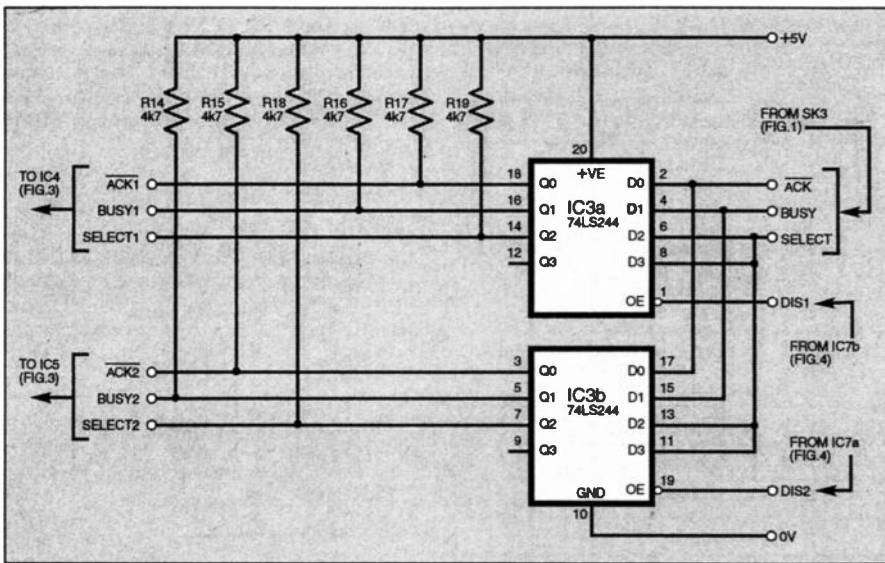

Fig. 2. Multiplexed distribution of control signals.
Signal lines **ACK** (acknowledge), **BUSY** and **SELECT**, are connected to IC3a and IC3b (see Fig. 2), each being one half of a dual 4-bit tri-state buffer. When the Output Enable (OE) pin is low, data on the D inputs is passed through to the Q outputs. With OE high the outputs are set into tri-state (high impedance) mode.